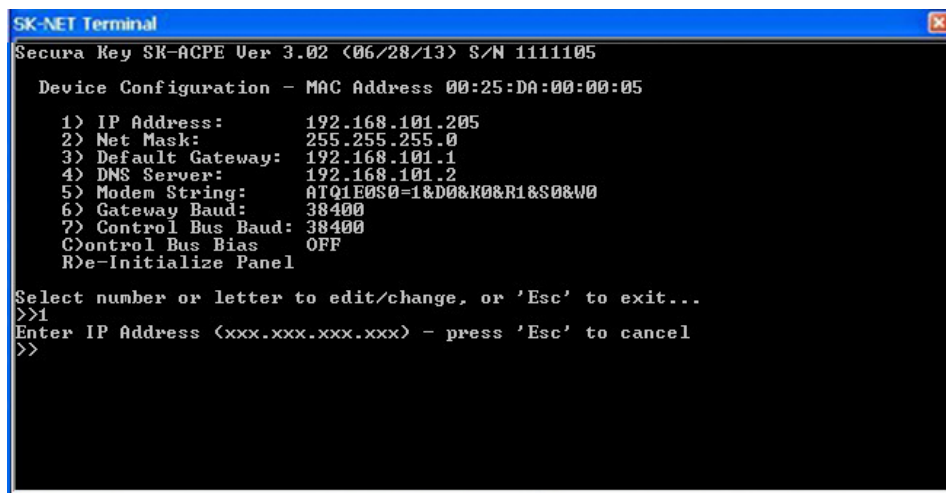

Figure D-2. SK-NET™ Device Configuration Screen
8. Type in the Default Password 12345 and press Enter. The Device Configuration Screen (Fig D-2) will display: Ignore any IP addresses currently displayed – these are random values.
9. At the prompt, you will enter data for items 1, 2, 3, and 4: